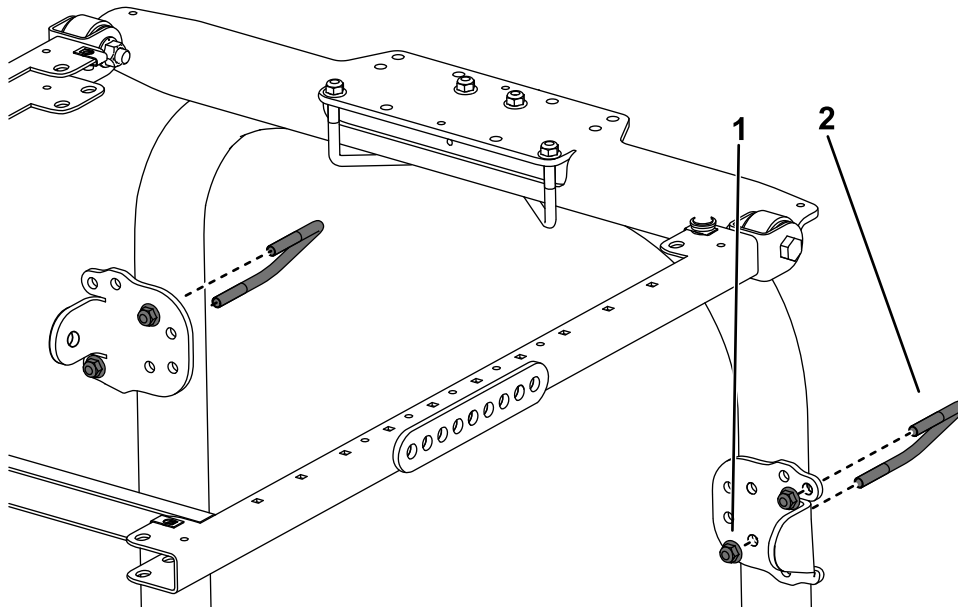

Figure 26
10. Using the mounting holes shown in Figure 26, loosely secure each of the brace brackets to the roll bar posts with a U-bolt (3-1/2 x 2-3/4 inches) and 2 flange nuts.